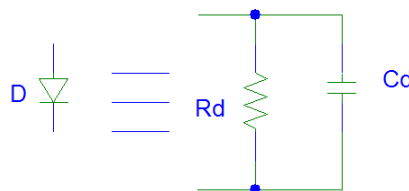

Fig.5.The AC equivalent circuit in forward bias (small signal)
- If the diode is in forward bias in DC, the AC equivalent circuit is the dynamic resistance (a resistor) connected in parallel with the diffusion capacitance (a capacitor) (Fig.5):